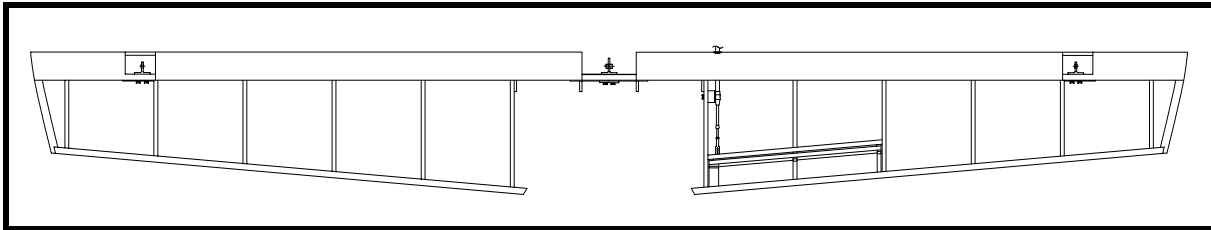

Figure 10
- ❑ Install the trim tab cable on Sta. 1 rib. See Drawing No. 402, Section C-C. As you can see in the drawing, the clamp (P/N 117-11) is installed with the pressed-down part in the slot on the cable assembly. This may require that you enlarge the hole in the elevator spar, and you must cut the elevator leading edge skin and leading edge strip (see Drawing No. 402). The cable should then be removed for the rest of the skinning operation. See Figure 10.
- ❑ Fit and bend the leading edge skin outboard of Sta. 5. See Figure 10.